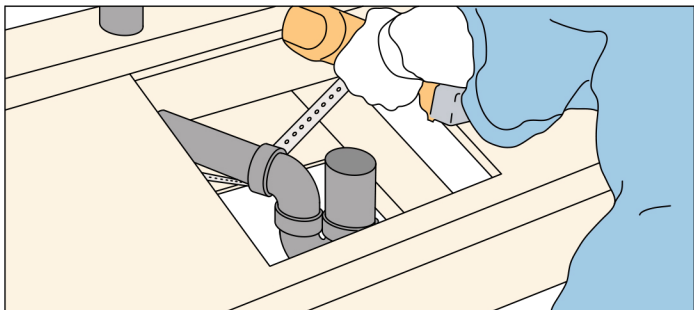

Figure 5
5. Rough in the drain pipe. **See Figure 5**